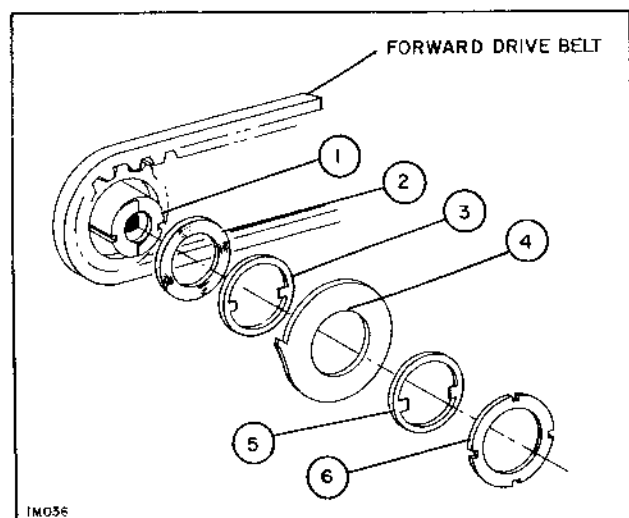

Figure 28
2. To disassemble clutch, remove spanner nut (6) and slide off items (2) through (5) (figure 28).